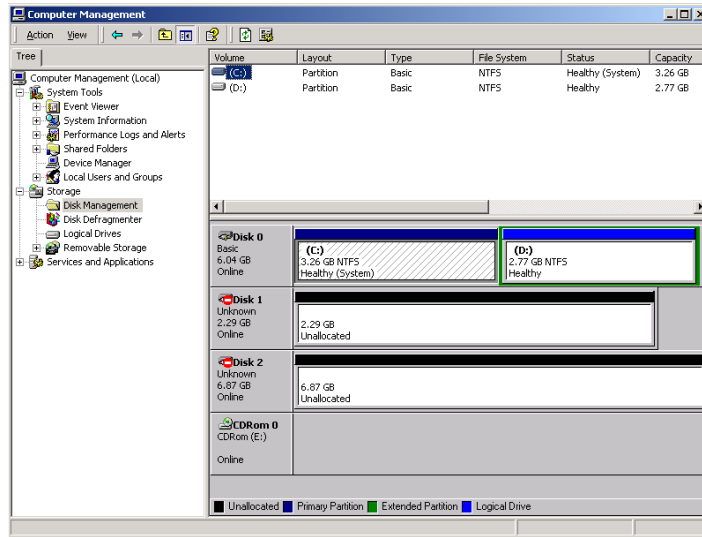

Figure 3.2 Disk Management Window Showing New Devices
4. After you write (or decline to write) a signature on each new device, the Disk Management main window displays the devices by disk number (see Figure 3.2). The total capacity and free space are displayed for each disk device with a signature. Configuration information not available or an “Unknown” status indicates no signature. Do not exit the Disk Manager yet. You will create partitions on the new SCSI disk devices next.